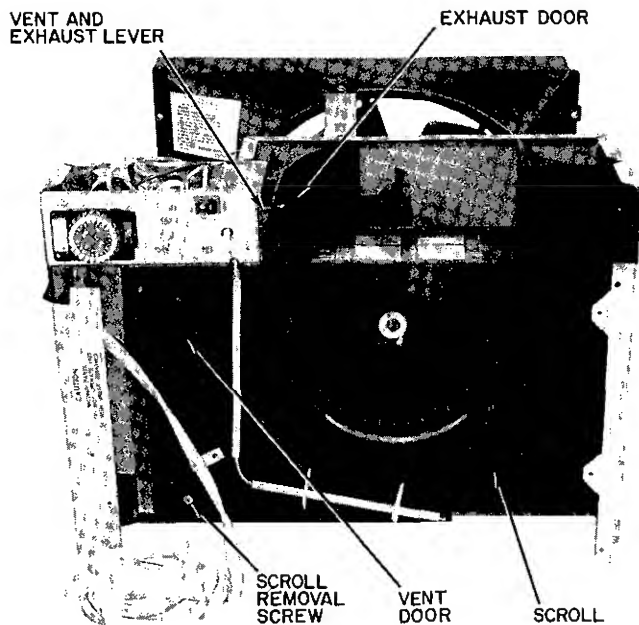

Fig 20 — Evaporator Scroll
- i Remove screw which holds the evaporator scroll to the partition See Fig 20
17 Exhaust Door — See Exhaust Door in Fig 20
18 Vent Door — See Vent Door in Fig 20
- 19 **Vent and Exhaust Lever** — See Vent and Exhaust Lever in Fig 20